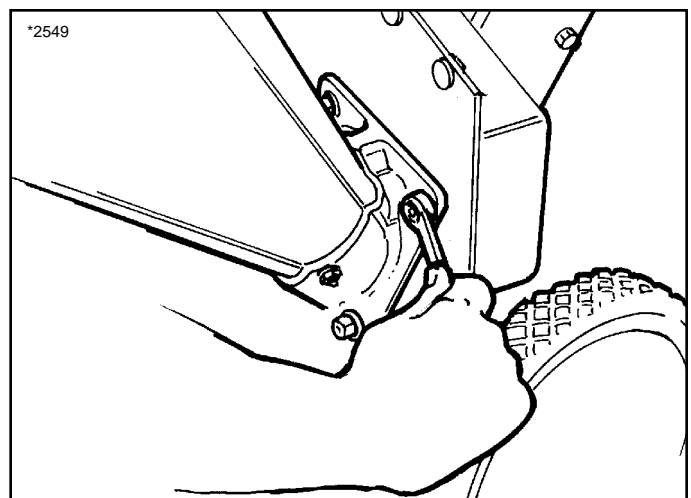

Figure 23. Removing Chipper Cone to Expose Chipping Knives.
3. Using a 1/2" box wrench or socket, remove the chipper cone and mounting casting to expose the oval chipping block and one chipping knife. See Figure 23.